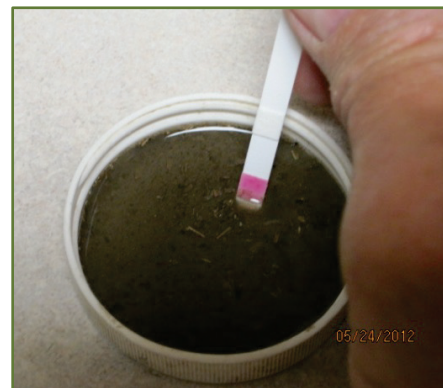

Figure 5.—1:1 soil to water test for nitrate.
4. Allow to settle for 2 to 3 minutes. Touch end of nitrate test strip to soil and water slurry. Leave until liquid is drawn up to least 1/8 to 3/16 inch beyond the area covered by the soil (fig. 5).